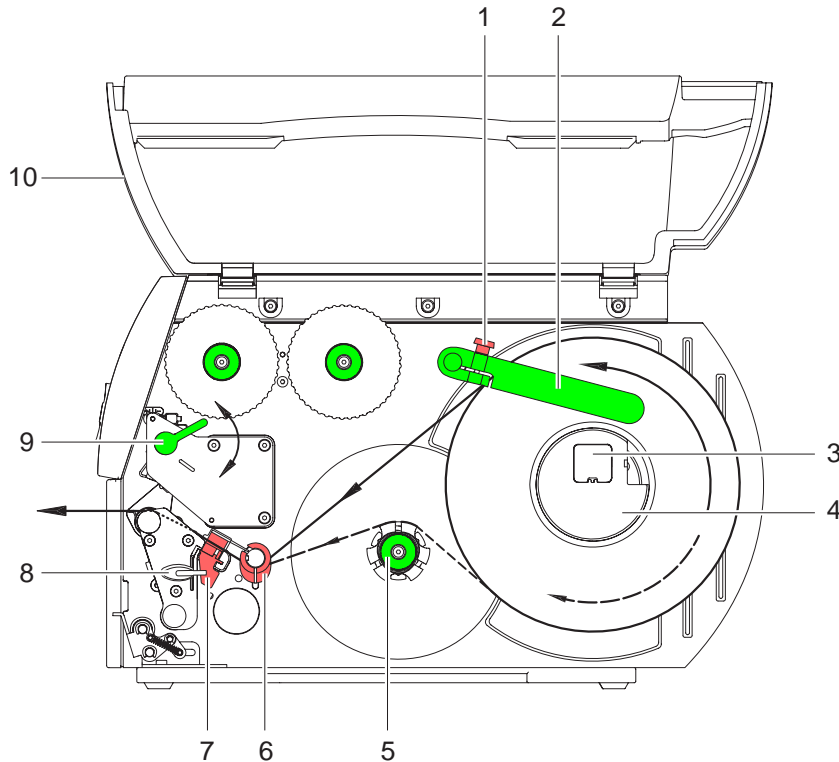

Fig. 5: Loading labels from a roll
i For adjustments and simple installation work, use the accompanying **hexagonal wrench** located in the bottom section of the print unit. See Fig. 5, Item 8. No other tools are required for the work described here.
- ⇒ Turn lever (Fig. 5, Item 9) clockwise to lock the printhead.